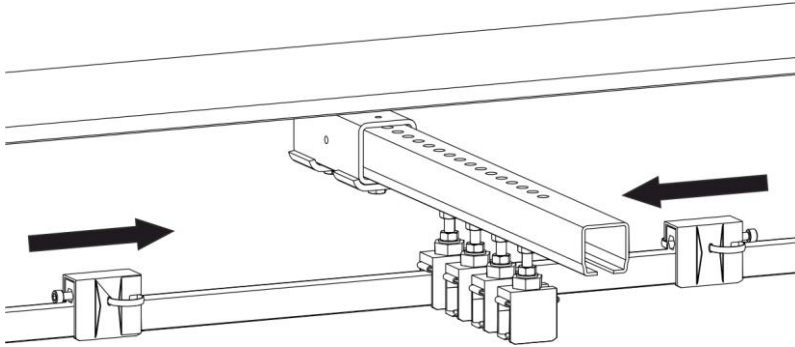

Fig. 92: Slide the anchor point clamps 0812 onto the hanger clamp
- Slide the anchor point clamps up to the hanger clamp (see Fig. 92).